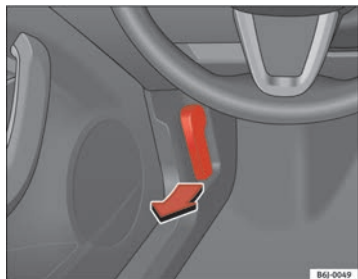

Fig. 116 Bonnet opening lever
- To release the bonnet, pull the lever under the dash panel ⇒ page 185, fig. 116 in the direction indicated (arrow). The bonnet will be released by a spring action ⇒ .